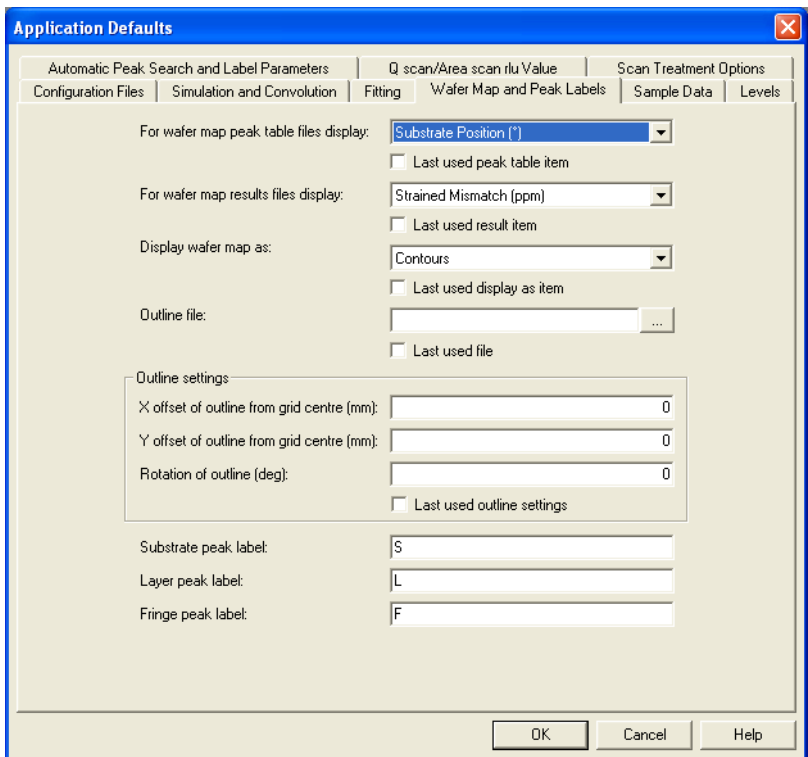
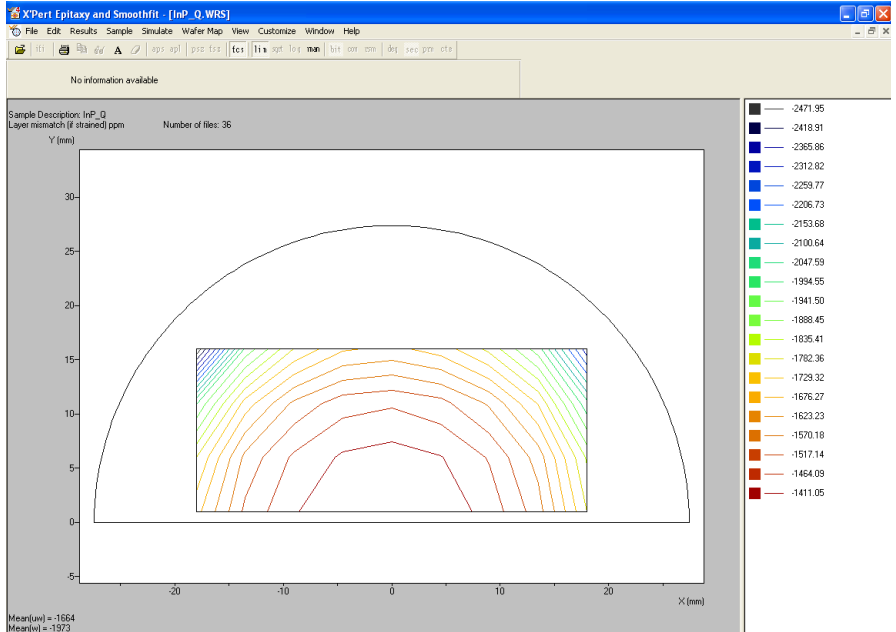

Figure 4-2: The Wafer Map and Peak Label Defaults
Figure 4-9: The map of Variation in Layer Mismatch
- Use the options shown in Figure 4-2:
The map should appear as in Figure 4-9. The layer mismatch is displayed because this is the results file default selected in Figure 4-2.
You will see a map of the substrate peak position (default set in Figure 4-2). If you wish to view another parameter from the peak table: